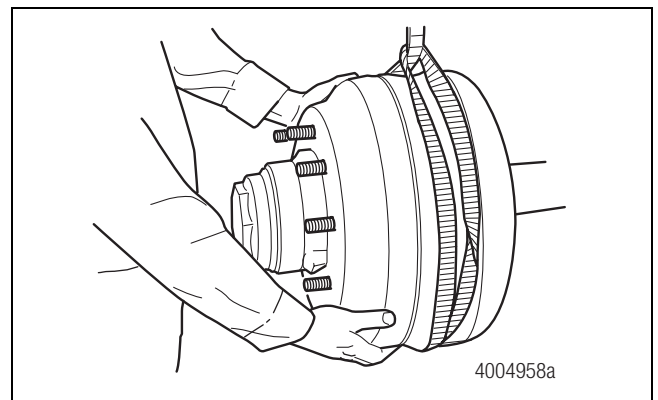

Figure 3.10
4. Release the brakes and remove the brake drum. Figure 3.10.